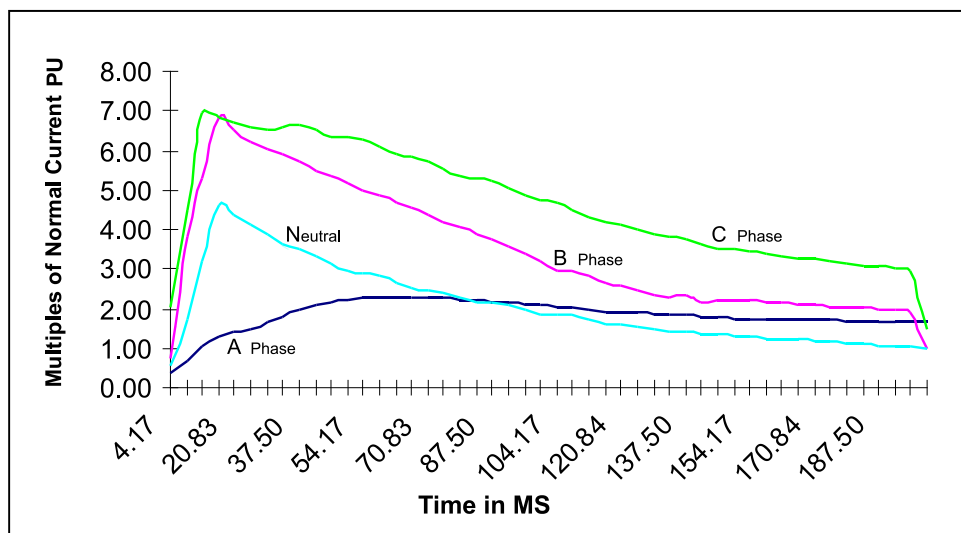

Figure 14. Example of hot load pickup inrush currents for a commercial area.
- **Hot-load pickup**—The hot-load pickup current occurs when the source breaker trips and recloses. The magnitude depends on magnetizing inrush and the type of connected load. For example, a momentary power interruption may cause motor controllers to disconnect their motors, while resistive loads may remain online. See Figure 14.
Evaluate the magnitude and type of load beyond the switch control, and estimate the magnitude and duration of the inrush-/load-pickup current. See Figure 14 on page 25 for examples.